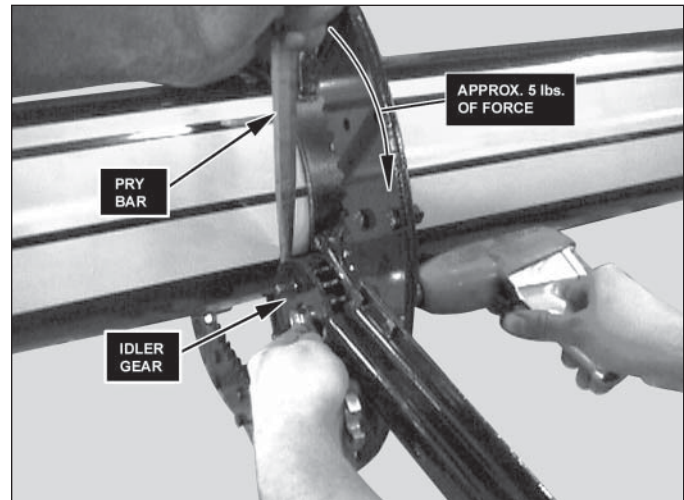

Figure 54, Tightening centerlock nuts of idler gears
2. Insert a small pry bar between the outside wall of the manifold tubing and the idler gears. Apply approx. 5 lbs of force to slide the gear away from the manifold (Figure 54).